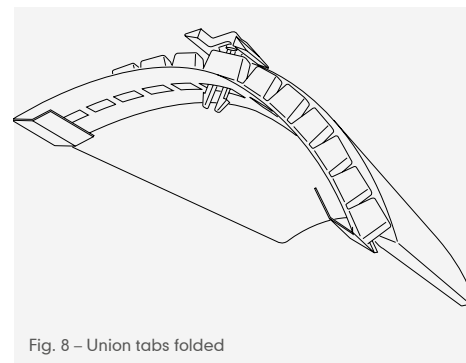

Fig. 8 – Union tabs folded
- 8 When the union clamp is fully engaged in the ridge union, it may create an interference fit with the sub-structure. In this case, the protruding length of the clamp can be snapped off or folded below the ridge union flange (Fig. 8).